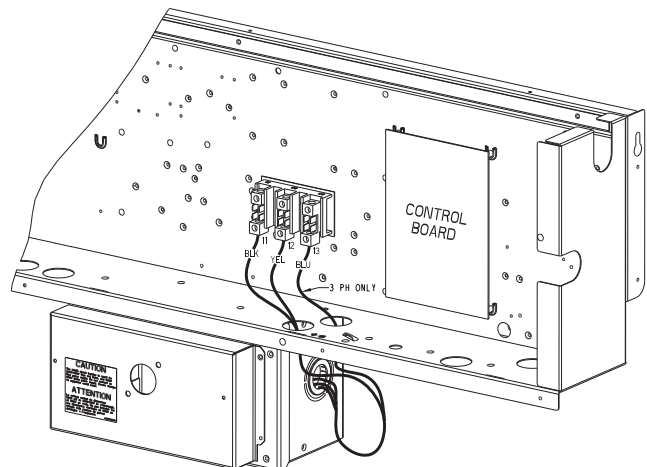

Fig. 36 — HACR Enclosure Location
1. Remove the Control Box access panel. The HACR enclosure is located below the Control Box (see Fig. 36).